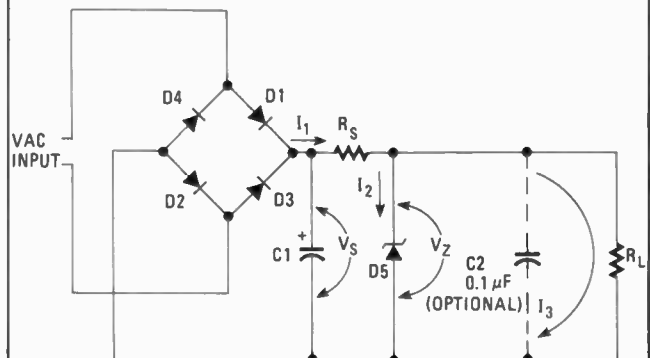

FIG. 13—ZENER-REGULATED DC power supply provides constant voltage to  $R_L$ . Capacitor C1 provides basic filtering keeping  $V_S$  always higher than  $V_Z$ .
Figure 13 shows a Zener-regulated DC power supply. Resistor  $R_L$  represents the load applied to the power supply (i.e.  $V_Z \div I_3$ ). Capacitor C1 is the regular filter capacitor used in any DC power supply. A good rule of thumb is to make C1 not less than 1000- $\mu\text{F}$  per ampere of load current, or 500  $\mu\text{F}$  (whichever is larger).
Capacitor C2 in Fig. 13 is used to suppress avalanche *hash* noise produced by the Zener diode. In many circuits that noise is negligible, so C2 may be deleted.
Designing a Zener-diode regulator circuit as seen in Fig. 13 is a four-step process: (1) Determine the operating condition (explained below); (2) select the Zener potential; (3) select
Design a Zener diode voltage regulator such as Fig. 13 to provide a 6.8 VDC to a circuit that draws 75 milliamperes. The power source is an automobile battery, which normally varies 12 to 15 VDC as the engine speed changes from an idle to high RPM.